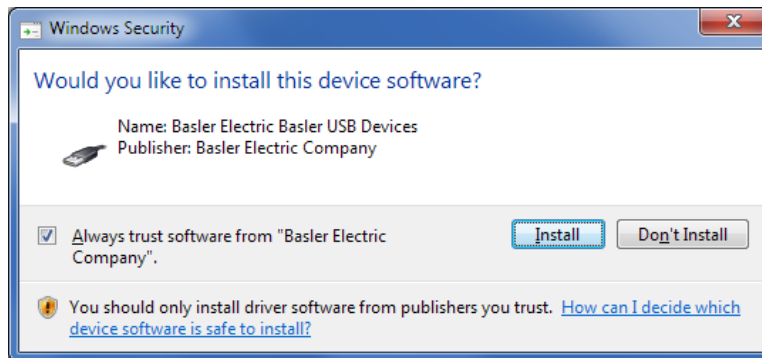

Figure 45-6. Windows Security
Step 6. If a Windows Security window (Figure 45-6) appears, click Install.